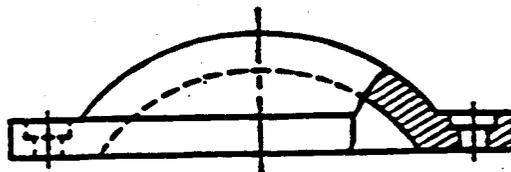

Fig 1-29. Broken out section.
- (6) Broken-out section. A broken-out section is a partial section used on an exterior view to show the interior detail without drawing a complete full or half section. The limit of the broken-out section is indicated with an irregularly broken line. In figure 1-29, the inside of the fitting is better illustrated because of the broken-out section.